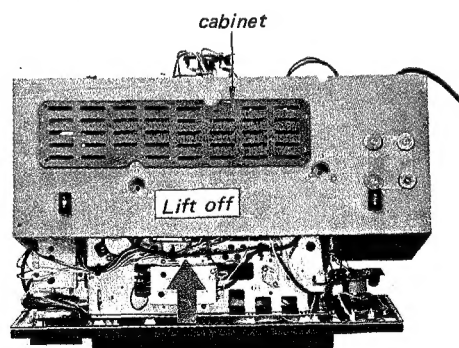

Fig. 2-6.
4. Lift off the cabinet as shown in Fig. 2-6.